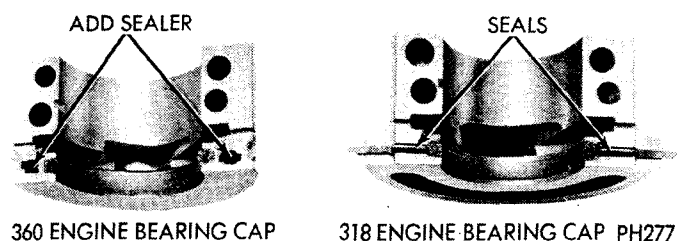

Fig. 50—Rear Main Bearing Cap
(4) (318 engines only) Insert cap seals into slots in bearing cap. Seal with yellow paint goes into right side with bearing cap in engine position. Install seals with narrow sealing edge up. Be certain that edge of cap seals line up exactly with shoulder in bearing cap, (Fig. 50). If this is not done oil leakage will occur. Install seal edge toward inside of shoulder. Pull outward on small end of seal until edge lines up with shoulder.
(5) Lightly oil lips of crankshaft seals.
(6) Rotate half seal into cylinder block with paint stripe toward rear. **Be careful** not to shave or cut outer surface of seal.